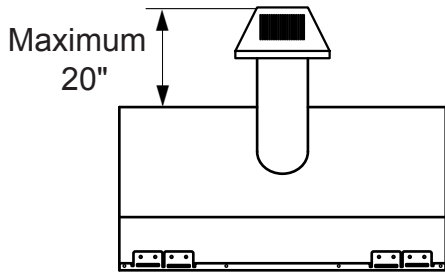
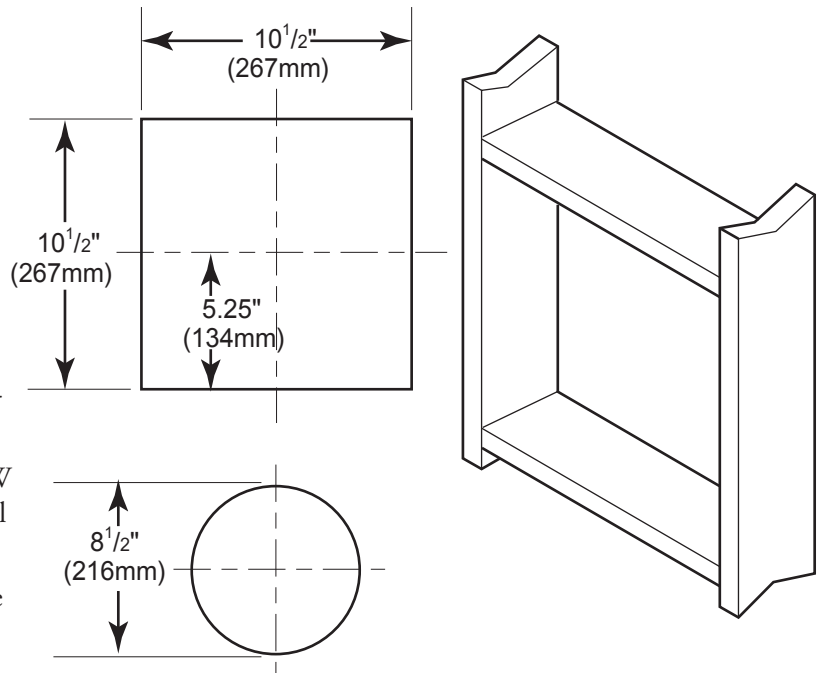

Figure 11 - Rear Vent Application, Maximum Horizontal Distance
Figure 12 - Vent Opening Requirements
The maximum horizontal distance between the rear of the appliance and the outside of termination is 20" (508 mm). See Figure 11.
1. Locate and cut the vent opening in the wall. For combustible walls first frame in opening. See Figure 11.
Combustible Walls: Cut a 10 $\frac{1}{2}$ "H x 10 $\frac{1}{2}$ " W (267mm x 267mm) hole through the exterior wall and frame as shown. See Figure 12.
3. Attach vent pipe assembly to the fireplace. Set fireplace in front of its permanent location to insure minimum clearances. Mark the wall for a 10 $\frac{1}{2}$ "H x 10 $\frac{1}{2}$ "W (241mm x 241mm) square hole (for noncombustible material such as masonry block or concrete, a 8 $\frac{1}{2}$ " [216mm] diameter hole is acceptable). See Figure 11. The center of the hole should line up with the center line of the horizontal rigid vent pipe end. Be sure to allow for minimum rise. Cut a 10-1/2"x10-1/2" (267mm X 267mm) square hole through combustible exterior wall (8 $\frac{1}{2}$ " [216mm] diameter hole if noncombustible). Frame as necessary. Allow $\frac{1}{4}$ " minimum rise per foot. See Figure 12.
1. Establish vent hole through the wall. *See Figure 12, page 17.*